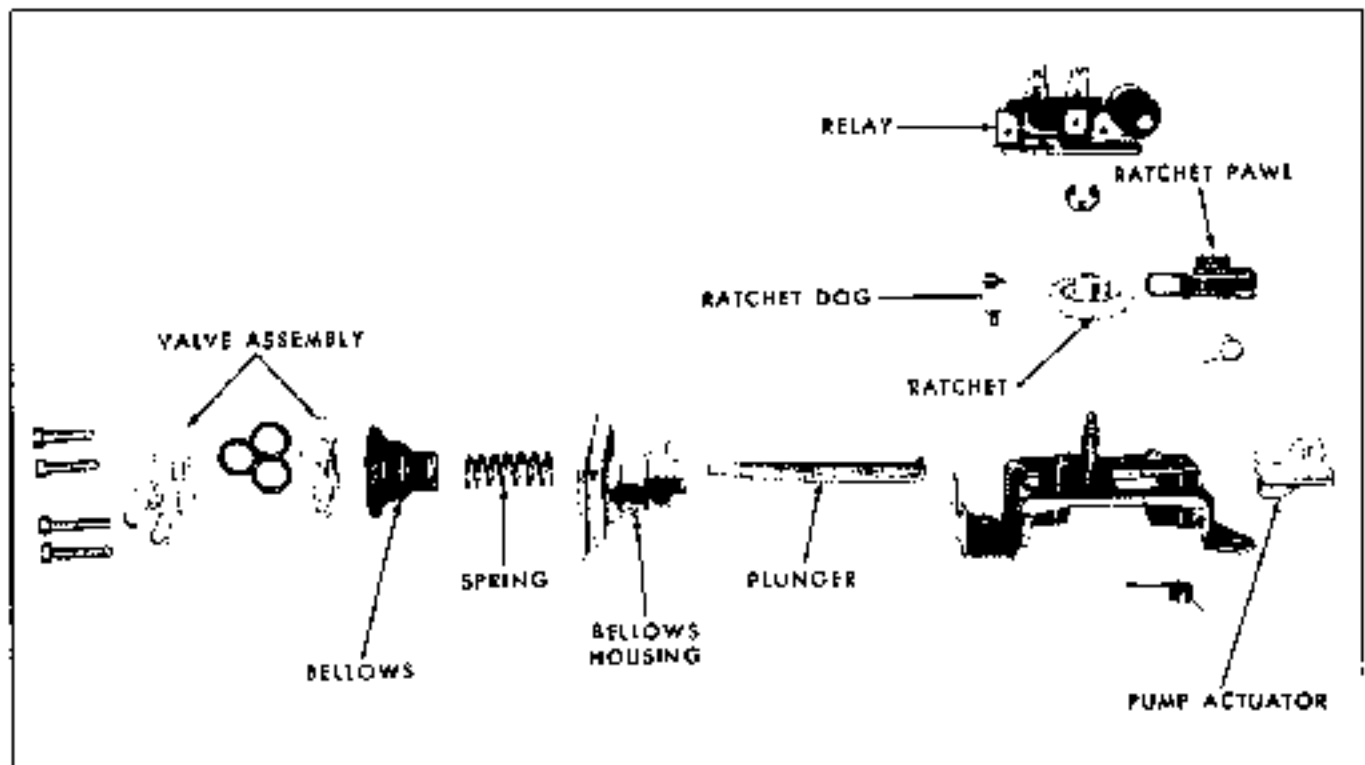

Fig. 12-47 Exploded View Pump Assembly—Tempest and Firebird
2. To release the plastic pump housing from the sheet-metal base, pull it in the direction toward the valve end until the housing knurles clear the sheet-metal base. Next, detach the assembly from the cam-follower pin (Fig. 12-47).